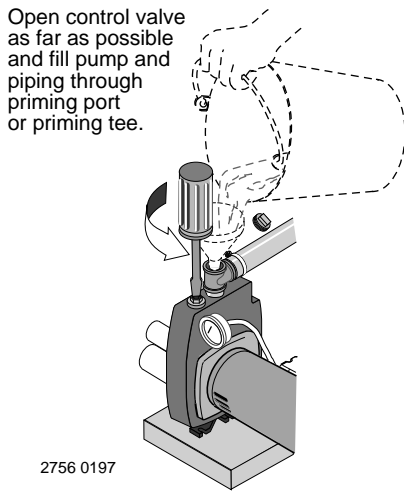

Figure 13: Fill Pump
- Step 1. Open the control valve as far as possible (see Figure 13). Then remove the priming plug from the pump and fill the pump, fill all piping between the pump and the well, and make sure that all piping in the well is full. If you have also installed a priming tee in the suction piping, remove the plug from the tee and fill the suction piping.